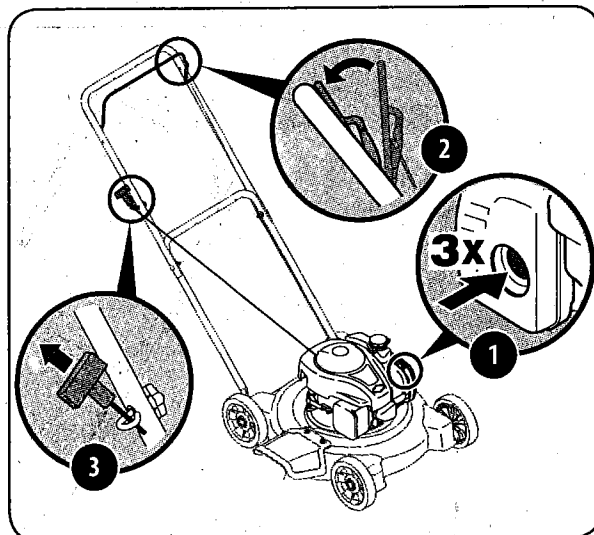

Figure 5-1
1. Push the primer three times. See Figure 5-1. Do not prime to restart a warm engine.
3. Holding these two handles together firmly, grasp recoil starter handle and pull rope out with a rapid, continuous, full arm stroke. See Figure 5-1. Keeping a firm grip on the starter handle, let the rope rewind slowly. Repeat until engine cranks. Let the rope rewind each time slowly.